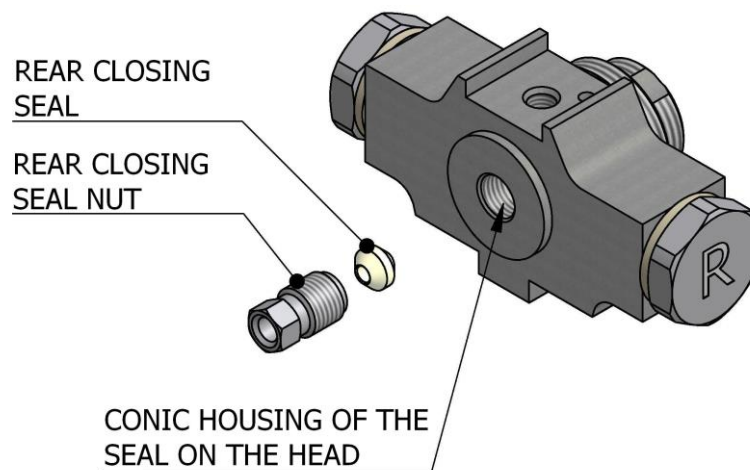

Figure. 16
6. Loosen the rear seal nut completely by turning it anti-clockwise (see **Figure. 16**).
7. Remove the rear closing seal and clean it with gun-cleaning solvent or replace it if it is very worn (see **Figure. 16**).
18. Completely unscrew the nut of the rear closing seal by turning it clockwise (see **Figure. 16**, page 16).